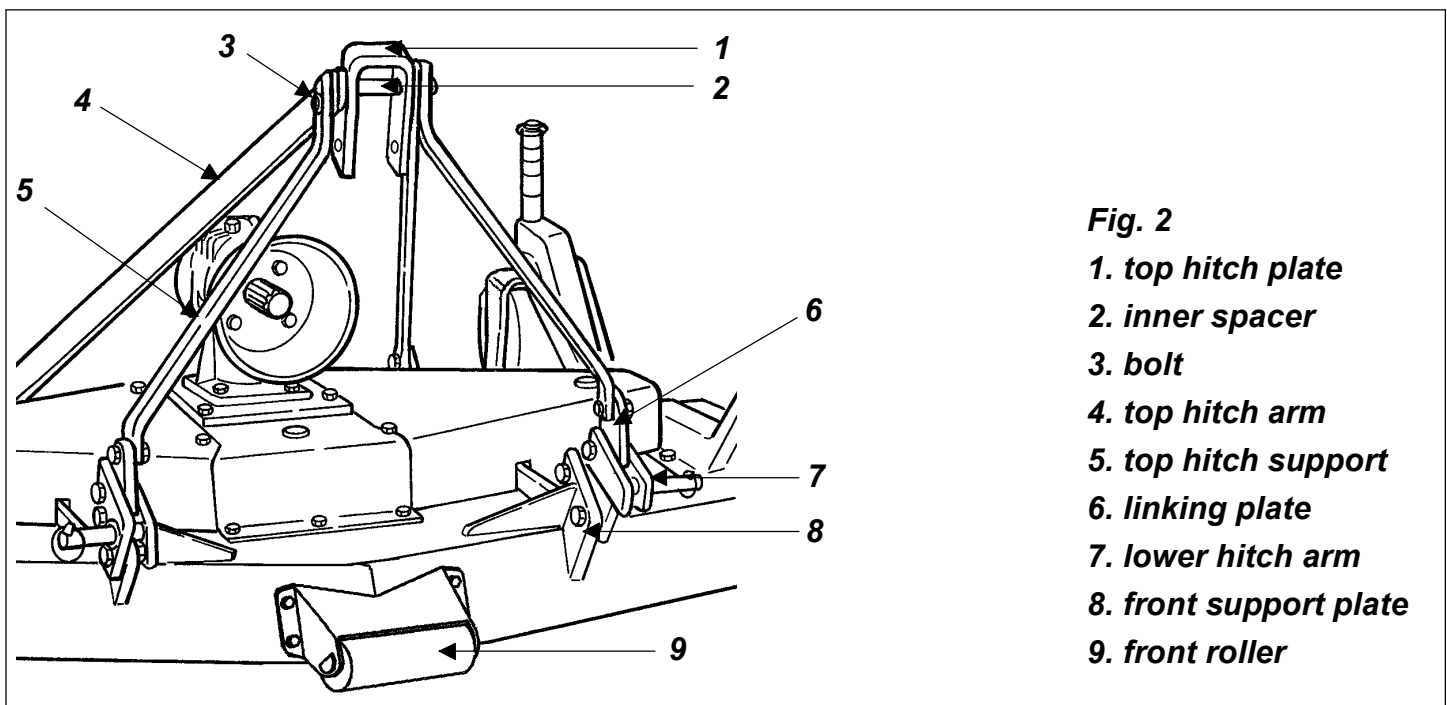
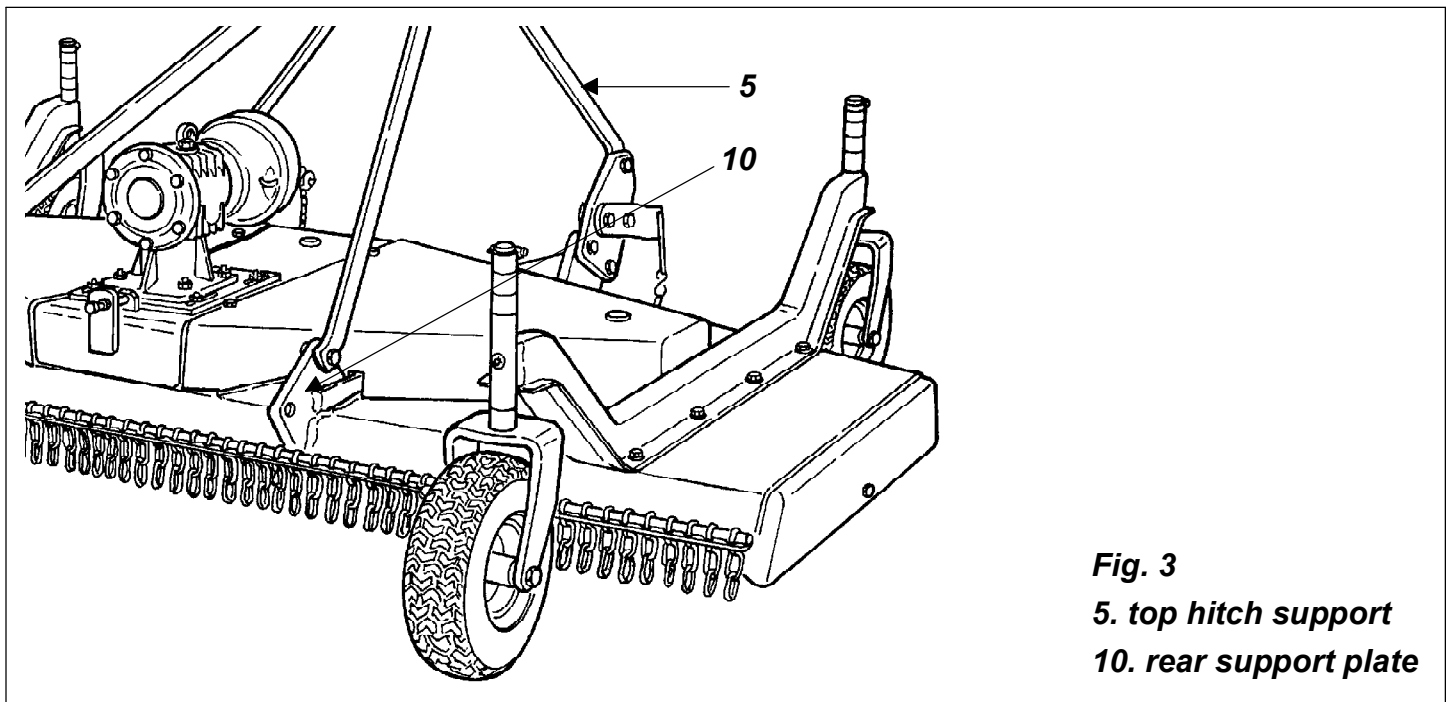

Fig. 2
Fig. 3
7. Bolt up the top hitch arms (see #4, fig. 2) to the **outside** of the rear support plates (see #10, fig. 3) on the rear of the mower.
8. Bolt up the top hitch supports to the **inside** of the linking plates (see #6, fig. 2). Use the **top holes** (see fig. 2).
9. Bolt up the top hitch plate (see #1, fig. 2) with the bolt M16x140 (see #3, fig. 2). It should be bolted as follows: bolt, top hitch support, top hitch arm, top hitch plate, spacer, top hitch arm, top hitch support, locknut M16. **Tighten the locknut down securely, the top hitch plate should be able to swivel 360°** (see fig. 2).
10. Install the lower hitch arms (see #7, fig. 2) in the lower hole of the linking plates (see #6, fig. 2). If assembled properly, the hitch plates will rest on the "thumb" of the linking plate when down. Tighten the bolts holding the lower hitch arms. Be sure they are able to swivel.